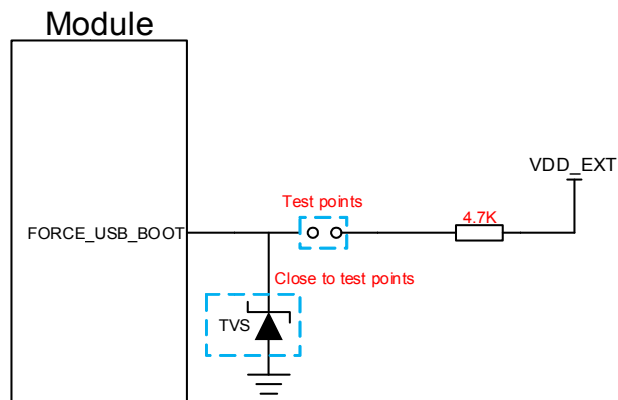

Figure 27: Reference Circuit of FORCE_USB_BOOT Interface
2. When using MCU to control module to enter the forced emergency download mode, please follow the above timing sequence. It is not recommended to pull up FORCE_USB_BOOT to 1.8V before powering up the VBAT. Directly connect the two test points as shown in **Figure 27** will manually